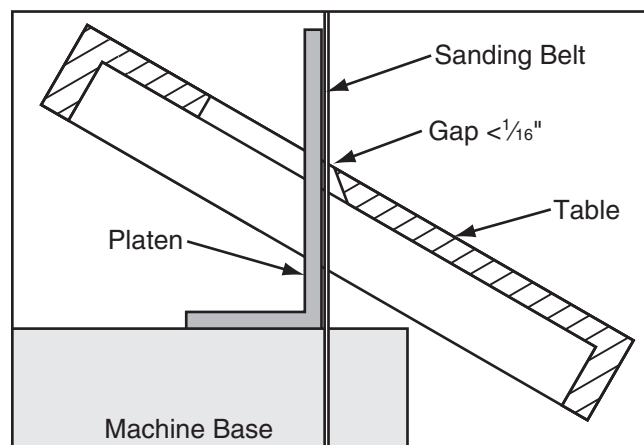

Figure 10. Table gap.
3. Tilt the table to the desired angle, then slide it so that there is less than $\frac{1}{16}$ " between the table and the sanding belt (**Figure 10**). Recheck the angle, then tighten the table lock lever.